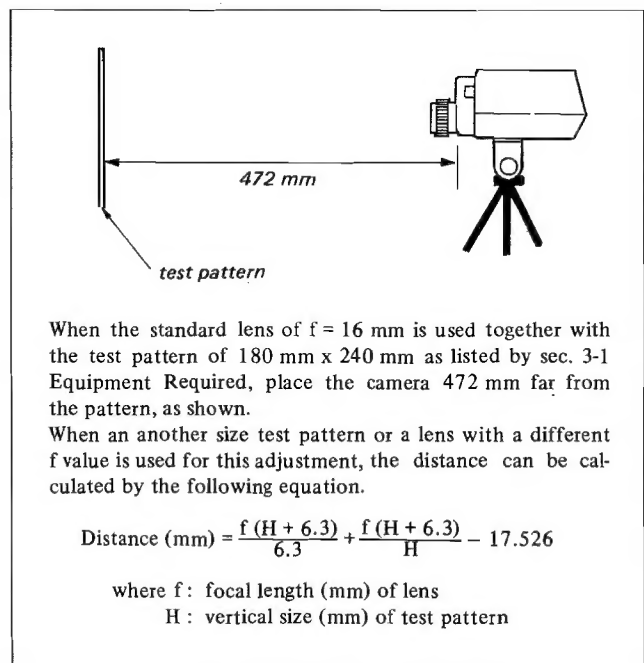

Fig. 8-4. Standard shooting state
1. Point the camera to the test pattern at the distance obtained by the equation in Fig. 8-4.
1. Adjust R12 (V-LINE) and R15 (V-SIZE) on the DR-1 Board in the same set-up as in Fig. 8-4 so that linearity of the monitor picture is best and the vertical width of the test pattern image fills the vertical width of the monitor screen.
Illuminate the test pattern in the setup shown in Fig. 8-4 with 600 lux for this adjustment. (Two 100 W lamps positioned one meter from the pattern will provide adequate lighting.) Prior to this alignment, be sure to turn R42 (CABLE COMP) on the PW-5 Board and R48 (AGC) on the PA-1 Board fully counterclockwise, looking from the pattern conductor side of the boards.